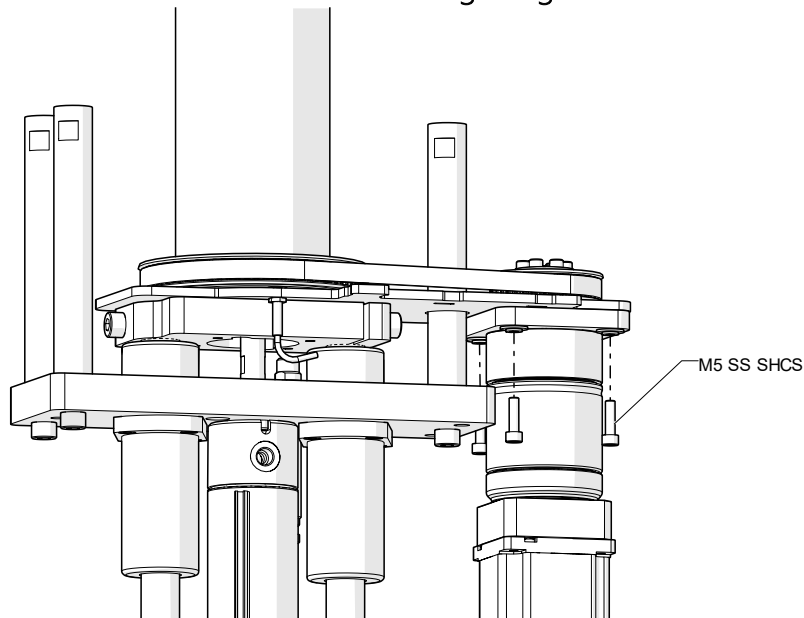

Figure 13: Remove M5 SHCS
Step 3: Remove the four M5 SHCS securing the gearbox as shown in Figure 13.